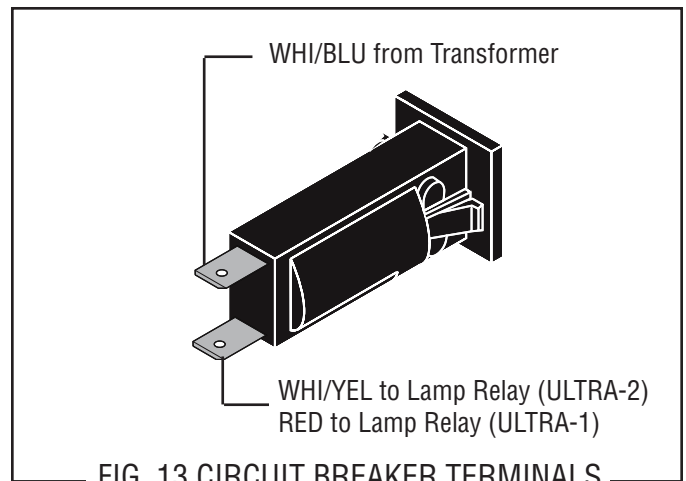

FIG. 13 CIRCUIT BREAKER TERMINALS
6. Refer to Fig. 13 when reconnecting the wires.